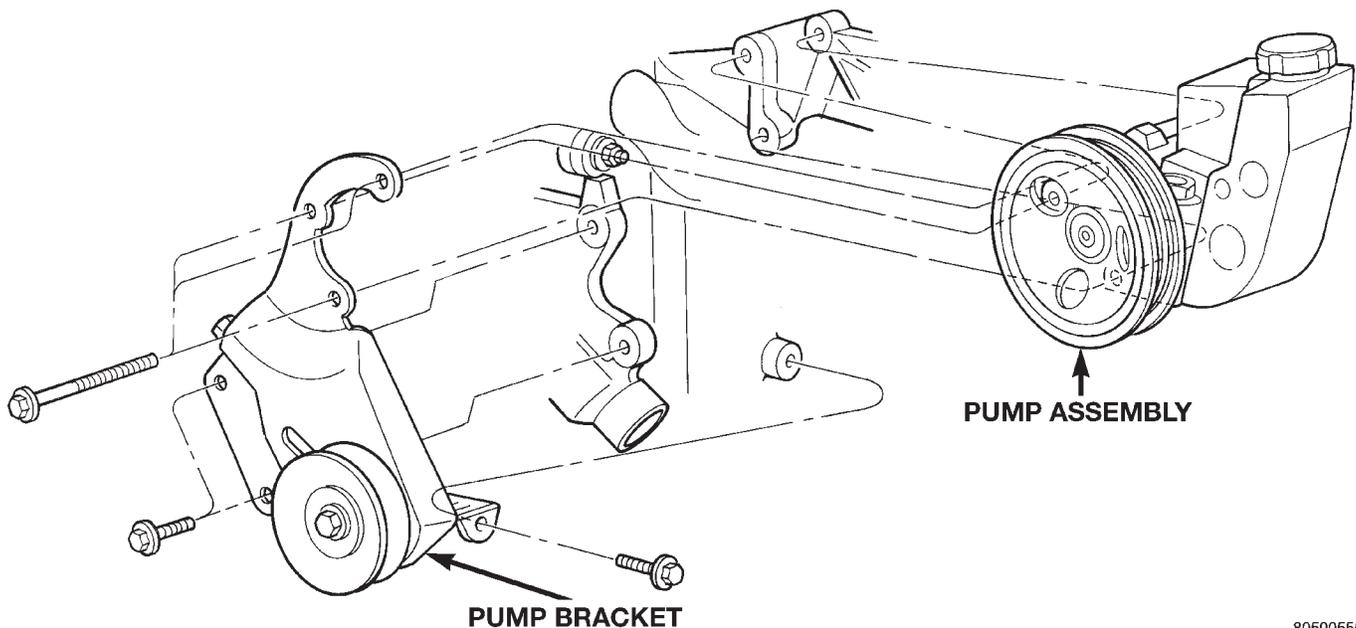

Fig. 28 Power Steering Pump Attachment
- (7) Remove engine drive belt.
- (8) Remove power steering pump (Fig. 28), refer to Group 19 Steering.